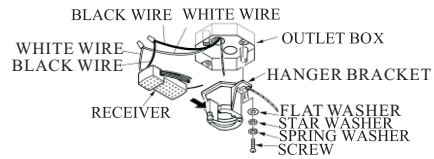

FIG.3
1. Securely attach the hanger bracket to the outlet box by washers and screws supplied. Connect white wire from ceiling to white wire from receiver with wire nut. Connect black wire from ceiling to black wire from receiver with wire nut. (See fig.3)